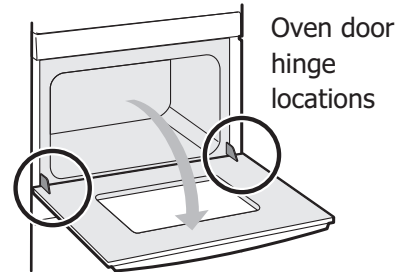

Figure 34: Door hinge location
3. Fully open the oven door, horizontal with floor (Figure 34).